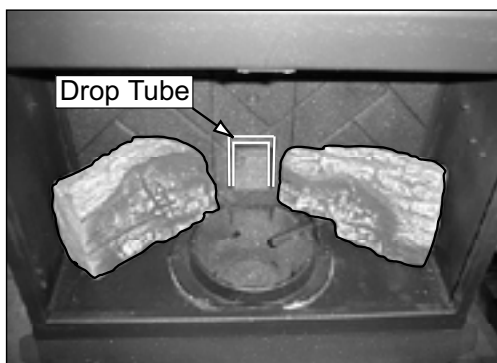

Figure 19.2
3. Continue placing the last 3 logs around the firepot as show in **Figures 19.2, 19.3 and 19.4**. Be careful not to block the drop tube in the back of the firebox where pellets feed into the firepot.